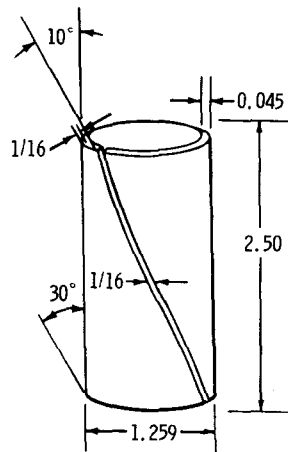

Fig. 6-13. Guide for installing pinion pin
(5) To insure proper alinement make a pinion pin alining tool 2 1/2 inches long by 1 1/4 inches outside diameter (fig. 6-13).
(6) Install the alining tool into the carrier. Be sure the tool alines the pinion group (items (2), (3), (4), above) with the upper and lower holes in carrier 6. Leave the alining tool in place, and allow the spindle to displace the tool during installation.
(7) Install a steel ball 9 into each spindle 10, retaining them with oil-soluble grease.
(8) Start spindle 10 into carrier 6. Aline steel balls 9 with the ball recesses in the carrier. Press the spindles until the larger ends are flush with the area adjacent to the bore into which the spindles fit. If chilled spindles were installed, apply a coating of oil onto each spindle to inhibit rust.
(9) Install snapping 8.